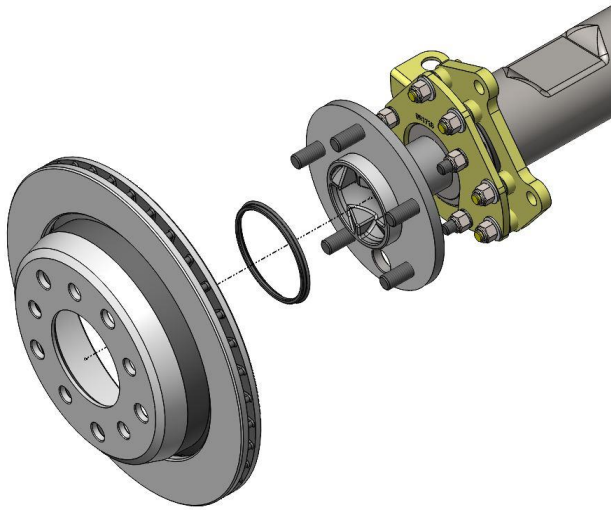
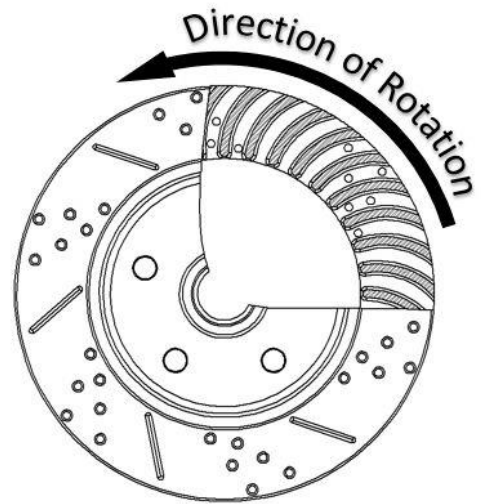

Figure 6a – Rotor and Centering Ring Installation
Figure 6b – Rotor Orientation
9. Install the rotor onto the axle flange. A Centric Ring is provided to center the rotor onto the axle shaft. Place the Centric Ring over the axle hub register. To allow the Centric Ring to go all the way against the axle shaft flange, it may be necessary to clean the hub register with a wire brush or emery cloth. Once the Centric Ring is in place, slide the rotor over the studs against the axle flange. Verify that the rotor goes all the way against the axle flange. Figure 6a on the next page shows the proper sequence. **TIP:** To make caliper installation easier, thread a couple of flatwashers and nuts against the rotor to act as a lug nut and hold everything in place. **IMPORTANT:** If using slotted and drilled rotors, pay close attention to Figure 6b on the next page proper rotor placement on the driver and passenger side.